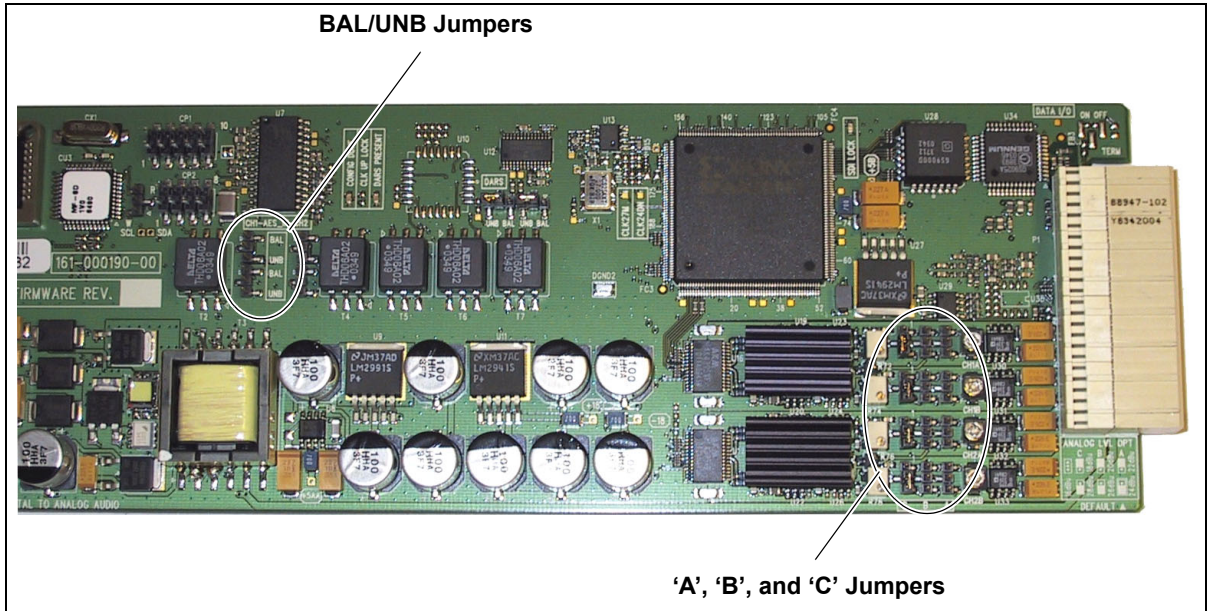

Figure 2-1. Locations of the Jumpers on a Typical DMX6800+ AB/C Series Module
*See Figure 2-1 on page 13 for the location of the **BAL/UNB** jumpers.*